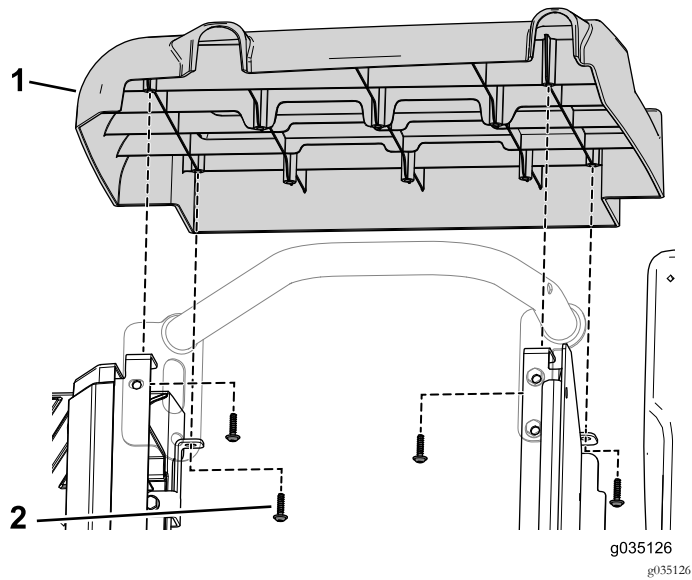

Figure 89
10. Use the 4 self-tapping screws to secure the right side cover to the seat assembly (Figure 89).